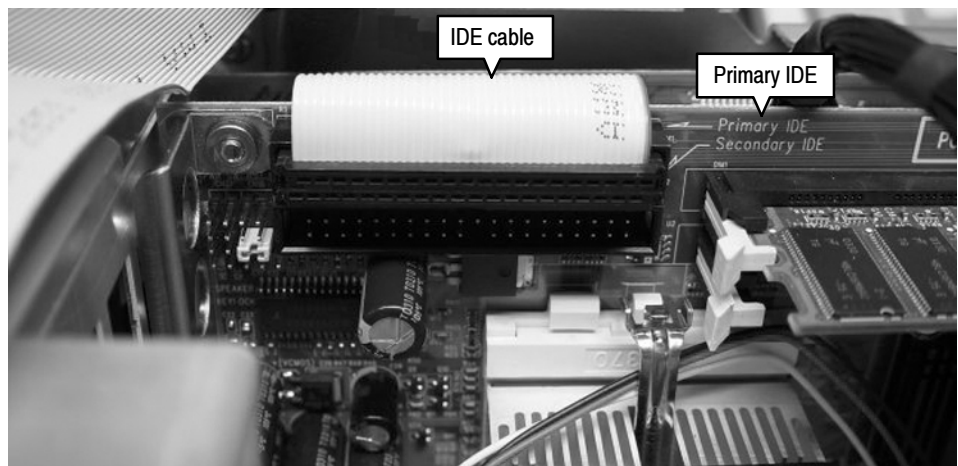

Figure 10: Connecting the IDE cable to the Controller board
5. Install the IDE cable from the I/O board to the controller board at connector marked “Primary IDE” (see Figure 10).